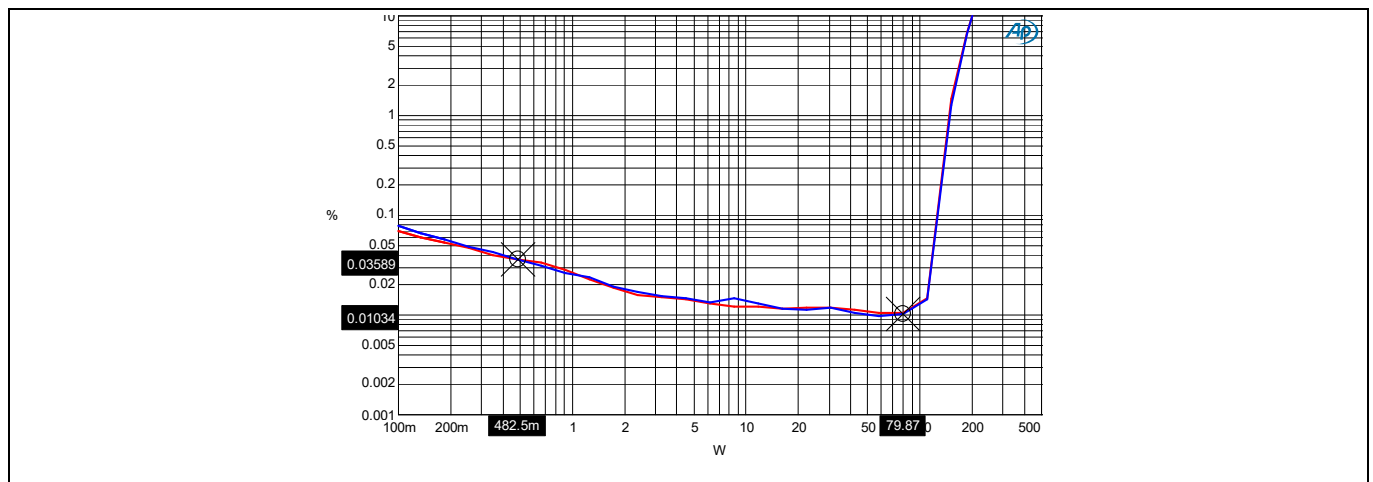

Figure 4 Power vs. THD+N 4Ω load
8. Run the AP test as shown in Figures 4 to 11, below.